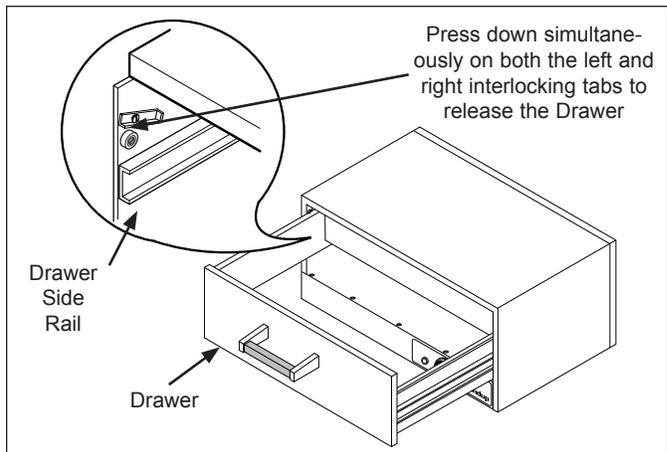

Figure 4. Removing Drawer
3. Pull the Drawer out (Figure 4). Push down simultaneously on both the interlocking tabs (above each drawer side rail - Figure 4) and pull the Drawer away from unit.